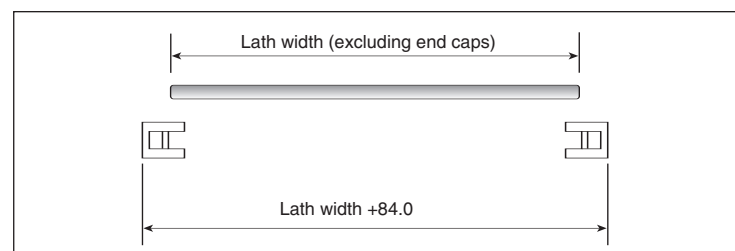

Fig 14
**NB:** Some width adjustment is available on the sliding shaft end of the axle, the correct distance is shown in Fig 14.
The correct distance apart is shown in **Fig 14**.